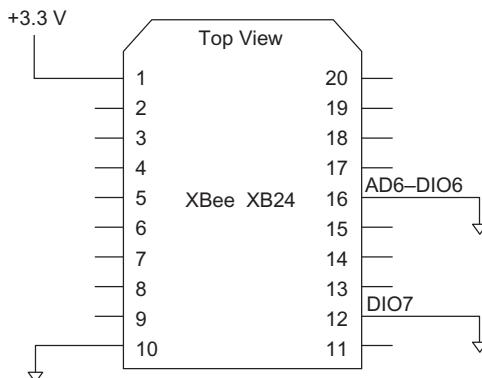

FIGURE 14.1 Connections needed to create a logic-0 signal for two XBee inputs.
Step 3. The schematic diagram in Figure 14.1 shows the connections needed for the XMTR module in your breadboard. If you have other connections at the XMTR module, please disconnect them now and make only the connections shown in Figure 14.1.